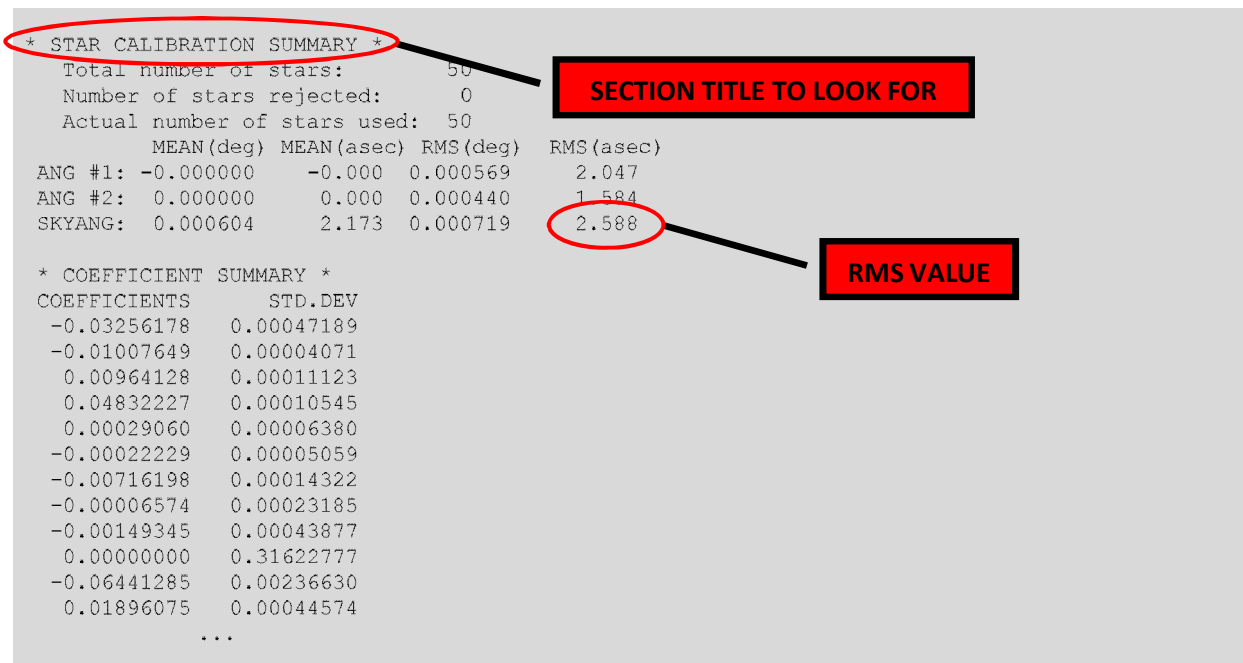

Figure 5-4: Location of the RMS Value in the Analysis File
9. **Verify the RMS value** – Once the system has processed 50 stars, a series of windows will pop up. The last window that pops up will contain the RMS values of the Star Calibration. Scroll down in the window to view the calculated RMS value (Figure 5-4). If the solution is <3.5 RMS, the changes will be automatically applied to the mount model when the user exits POP, and will need to be verified as described in Section 5.2.2. Otherwise, the attempted Star Calibration will be rejected and will need to be re-run from the beginning of the procedure.